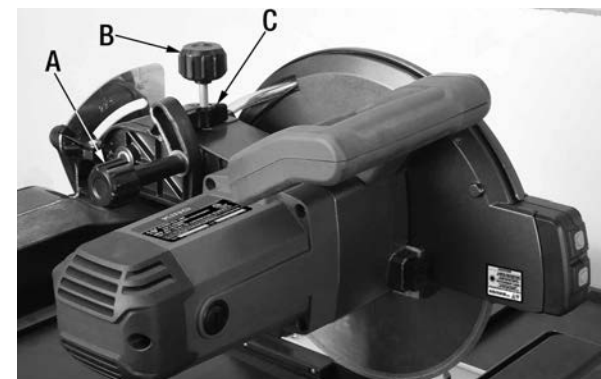

FIGURE 22
- 1) The depth of cut adjustment knob (A) Fig.22 sets the height of the entire head and can be used to cut at a set depth. Loosen adjustment knob (A) to raise the head to clear the table. For normal cuts completely lower head and tighten adjustment knob (A).
- 2) The depth stop controls the maximum depth of cut. If the blade cuts too deeply or not deeply enough, loosen depth stop knob (B) Fig.22, adjust the depth stop (C), retighten depth stop knob (B).